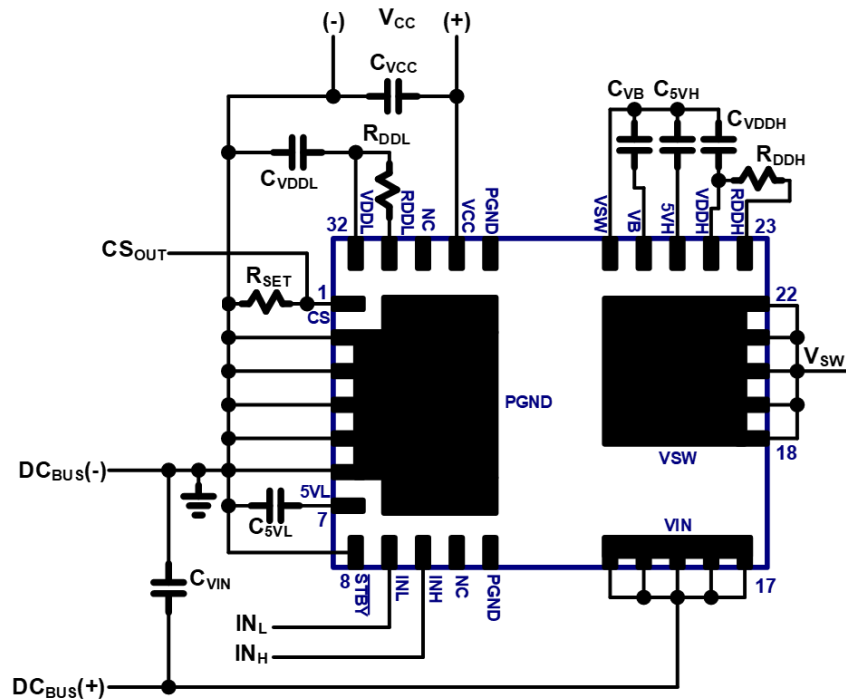

Fig. 23. IC connection diagram
The typical connection diagram for this GaN Half-Bridge IC is shown in Fig. 23. The IC pins include the drain of the high-side GaN power FET (V_{IN}), the half-bridge mid-point switched node (V_{SW}), the source of the low-side GaN power FET and IC GND (P_{GND}), low-side IC supply (V_{CC}), low-side gate drive supply (V_{DDL}), low-side turn-on dV/dt control (R_{DDL}), low-side 5V supply ($5V_L$), low-side referenced PWM inputs (IN_L , IN_H), low-side current sensing output (CS), auto-standby enable input (\overline{STBY}), high-side supply (V_B), high-side gate drive supply (V_{DDH}), and high-side 5V supply ($5V_H$). The external low-side components around the IC include V_{CC} supply capacitor (C_{VCC}) connected between V_{CC} pin and P_{GND} , V_{DDL} supply capacitor (C_{VDDL}) connected between V_{DDL} pin and P_{GND} , turn-on dV/dt set resistor (R_{DDL}) connected between V_{DDL} pin and R_{DDL} pin, current sense amplitude set resistor (R_{SET}) connected between CS pin and P_{GND} , 5V supply capacitor (C_{5VL}) connected between $5V_L$ pin and P_{GND} , the auto-standby enable pin (\overline{STBY}) connected to P_{GND} to enable auto-standby mode or connected to $5V_L$ to disable auto-standby mode. The external high-side components around the IC include V_B supply capacitor (C_{VB}) connected between V_B pin and V_{SW} , V_{DDH} supply capacitor (C_{VDDH}) connected between V_{DDH} pin and V_{SW} , turn-on dV/dt set resistor (R_{DDH}) connected between V_{DDH} pin and R_{DDH} pin, and 5V supply capacitor (C_{5VH}) connected between $5V_H$ pin and V_{SW} . The high side V_B , $5V_H$ and V_{DDH} bypass capacitors must be chosen carefully to accommodate various system considerations such as high side wake up time, high side hold up time and standby power.